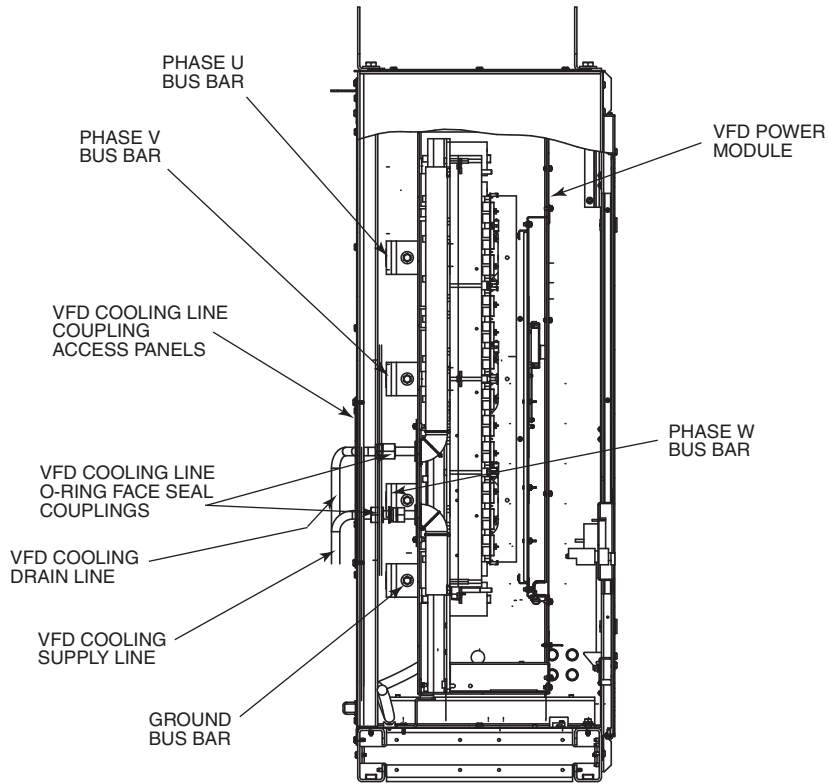

Fig. 18 — 900A or 1200A VFD Refrigerant Cooling Lines
7. Remove the access panels on the back of the VFD enclosure and disconnect the VFD cooling lines (Fig. 18). Cover all openings.
8. Install O-rings on VFD refrigerant connections using silicone grease. Using two wrenches, tighten connector to 27 to 33 ft-lb (37 to 45 N-m). See Fig. 18.